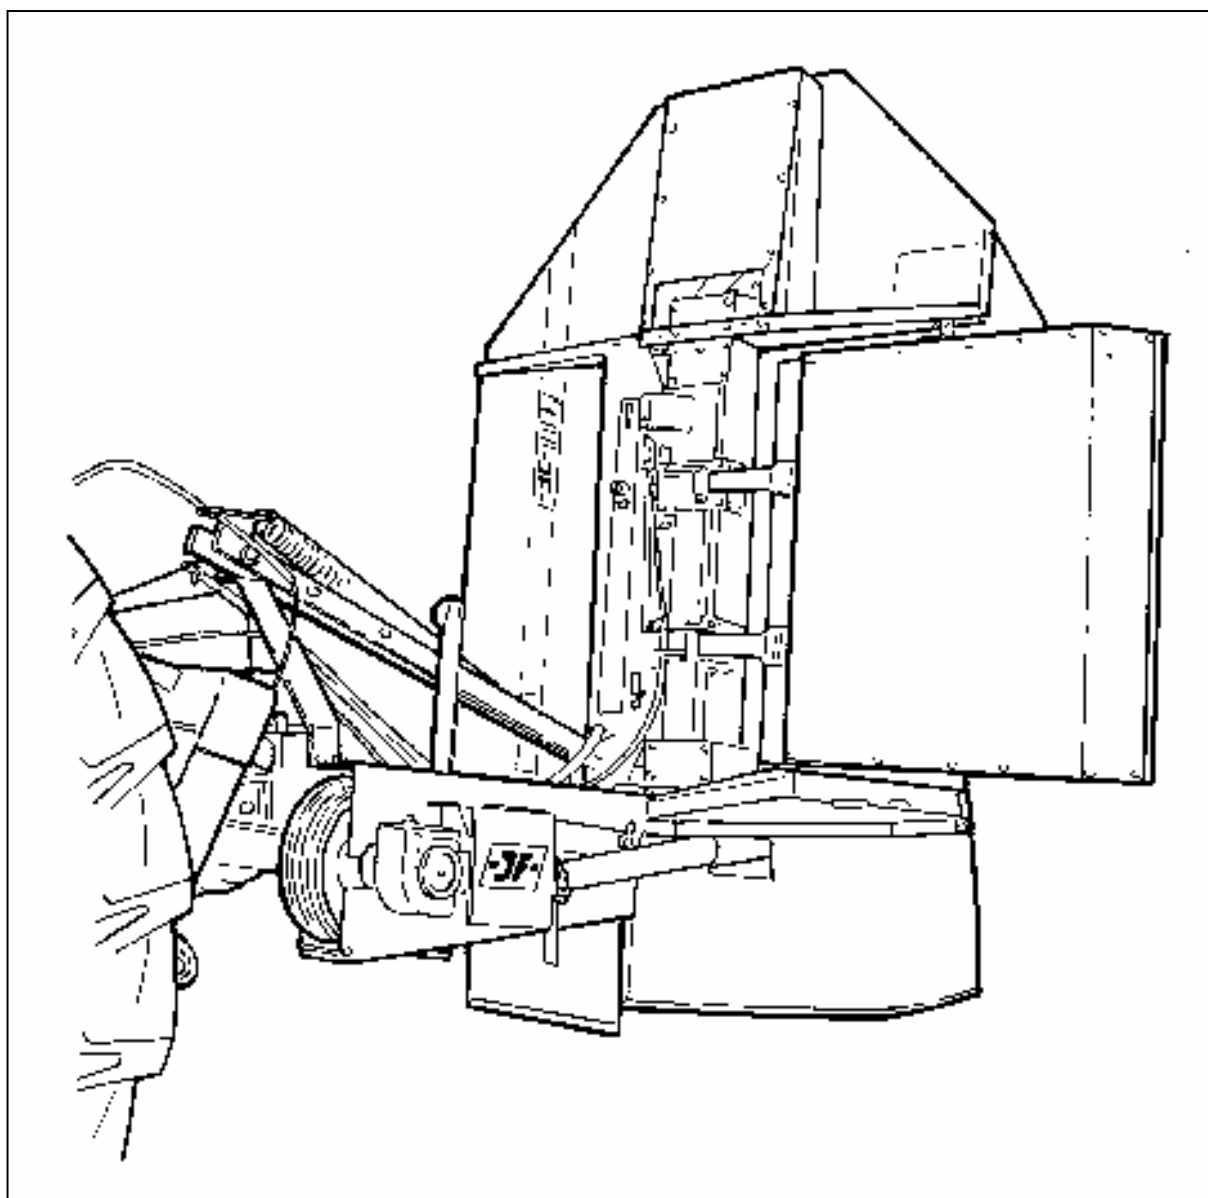

Fig. 35
**FIG. 35** For use with small tractors CM 1900 / 2250 can be equipped with hydraulic lift for vertical position. Thereby the centre of gravity is placed further forward, and the lifting power required is reduced.